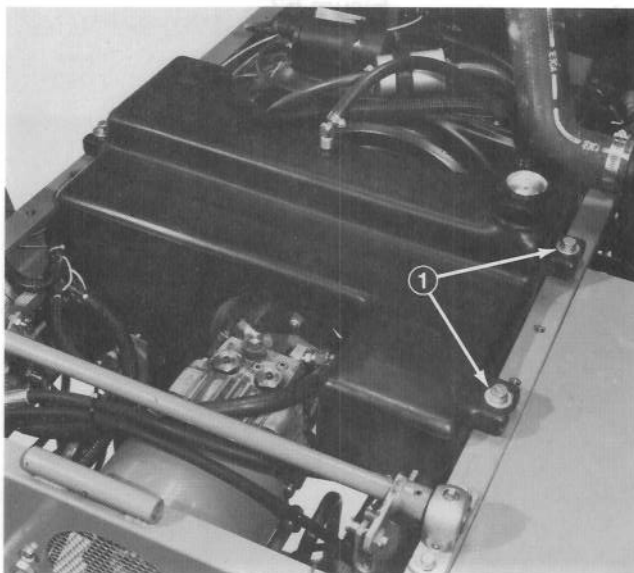

Figure 67
5. Remove capscrews, lockwashers and flatwashers securing fuel tank to top of frame (Fig. 67). However, do not lift fuel tank out of chassis at this time.
1. Set fuel tank into position and secure it in place with capscrews, lockwashers and flatwashers (Fig. 67).